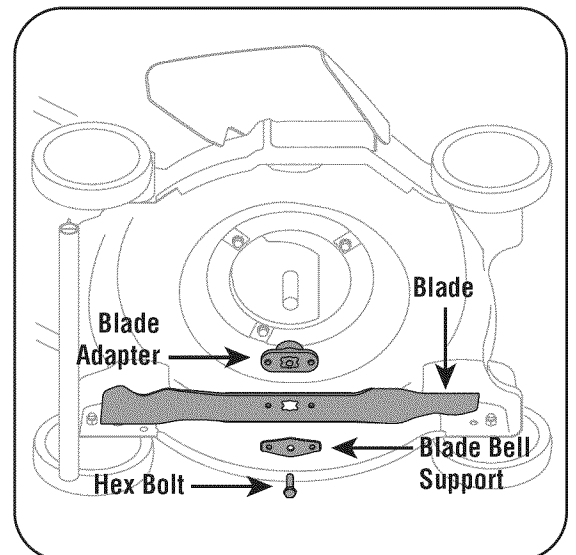

Figure 5-2: The blade and corresponding hardware.
2. Remove the bolt and the blade bell support which hold the blade and the blade adapter to the engine crankshaft, Figure 5-2.
3. Remove blade and adapter from the crankshaft, Figure 5-2.